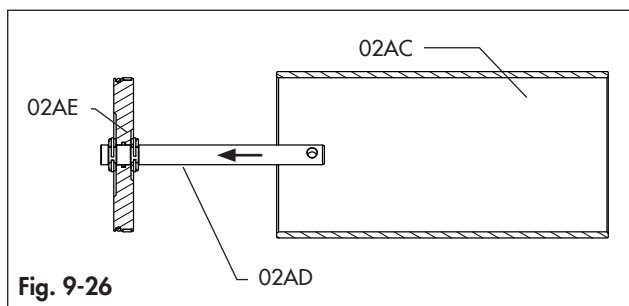

Fig. 9-26
- Remove the piston (02AE) together with the shaft (02AD) from the cylinder (02AC) by applying a small force on the stem. (Fig. 9-26).